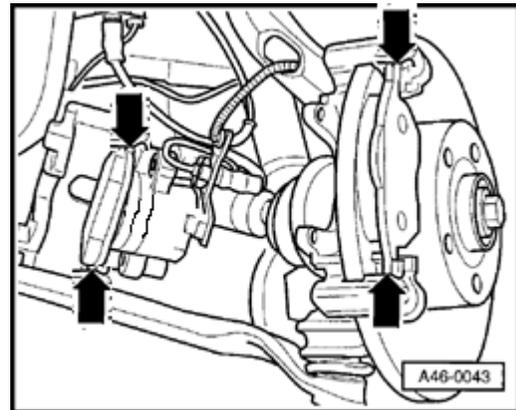

Figure 5. Contact points to be lubricated.
1. Thoroughly clean all contact points (Figure 5) where the brake pad backing plate makes contact with the brake caliper and/or the brake carrier.
1. Prior to reinstalling the brake pads, apply a thin coat of Plastilube Moly3® high temperature grease to contact points (Figure 5) where the brake pad backing plate makes contact with the brake caliper and/or the brake carrier.